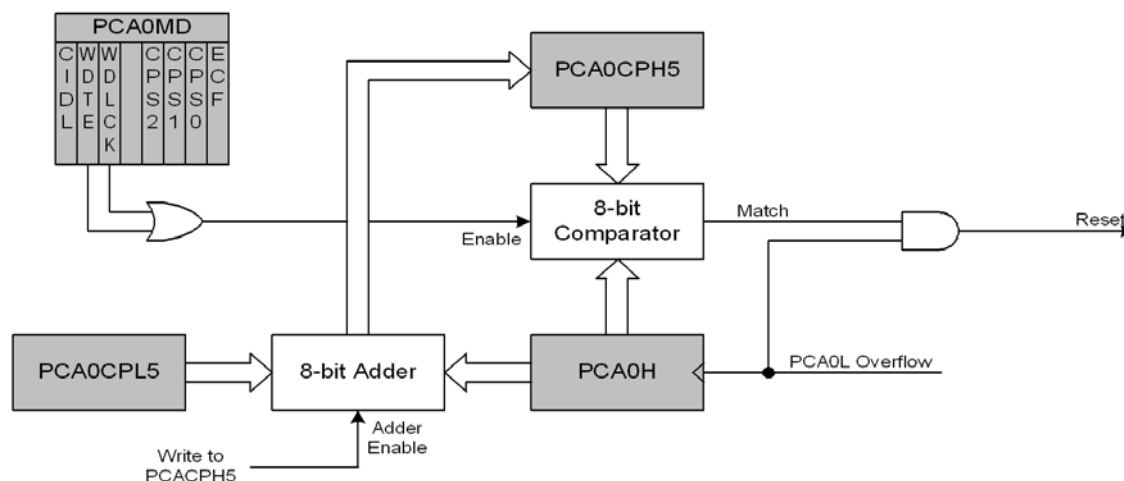

**Figure 33.11. PCA Module 5 with Watchdog Timer Enabled**
While the WDT is enabled, writes to the CR bit will not change the PCA counter state; the counter will run until the WDT is disabled. The PCA counter run control bit (CR) will read zero if the WDT is enabled but user software has not enabled the PCA counter. If a match occurs between PCA0CPH5 and PCA0H while the WDT is enabled, a reset will be generated. To prevent a WDT reset, the WDT may be updated with a write of any value to PCA0CPH5. Upon a PCA0CPH5 write, PCA0H plus the offset held in PCA0CPL5 is loaded into PCA0CPH5. (See Figure 33.11.)